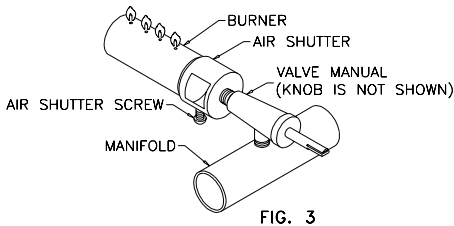

FIG. 3
2. Slowly decrease opening of air shutters to give a soft blue flame having luminous tips, then slowly increase openings to a point where the yellow tips disappear and a hard blue flame is obtained. See Figure 3.